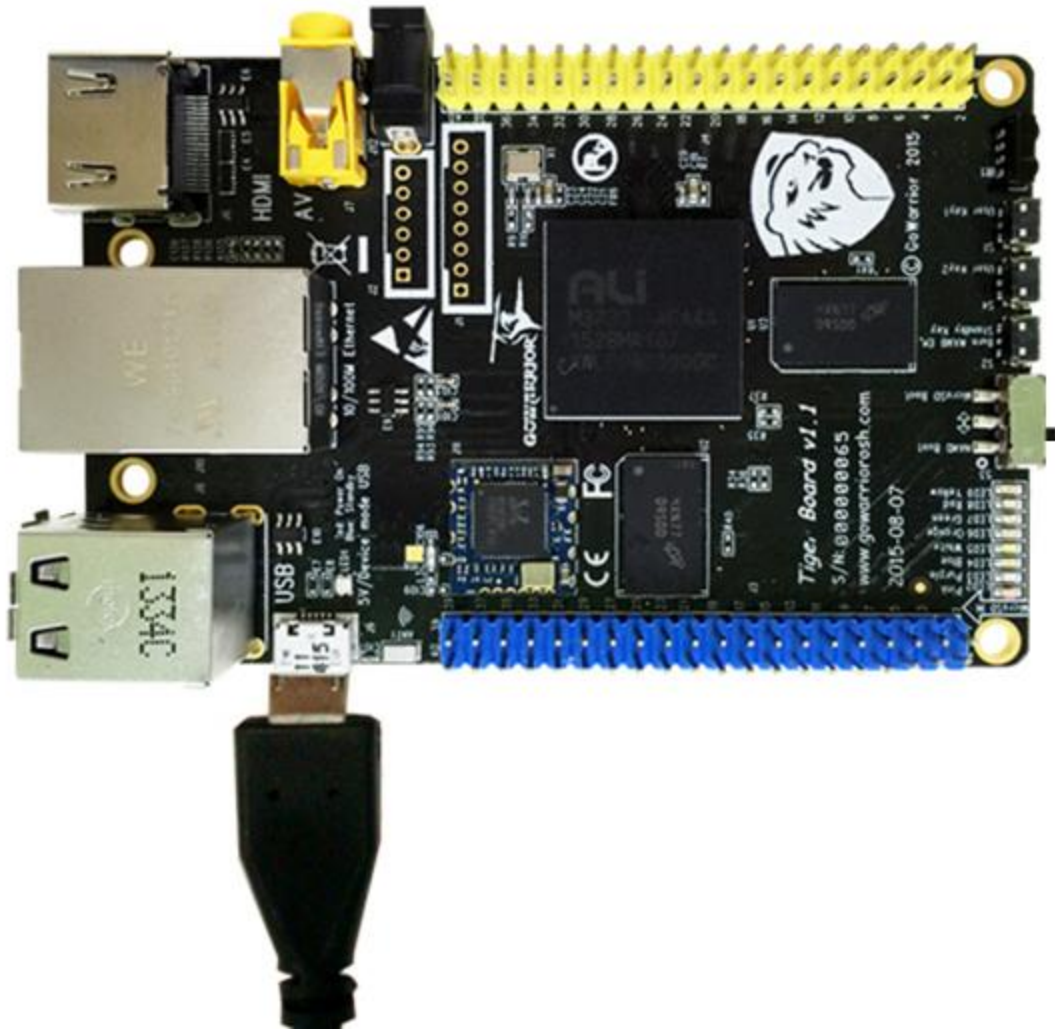

Figure 3. USB Connection to the Board
1. Connect the Micro B USB connector on the Micro USB cable to the board as shown in Figure 3. The connector is on the top side of the board.